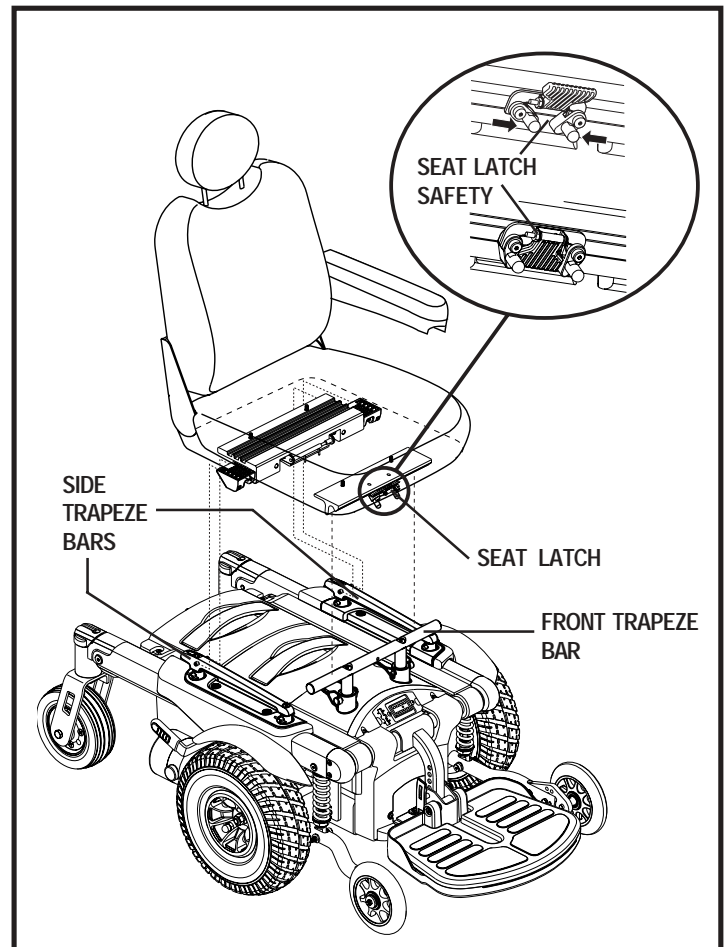

Figure 12. Seat Installation
It may be necessary to install the seat either prior to initial operation or after transporting your power chair. Most seats are attached to the power base with the Universal Mounting System (UMS). The UMS consists of universal parts that may be attached to any medium-back or high-back seat, regardless of seat width or seat depth. The two main components are aluminum extrusions mounted to the seat base. These extrusions attach to a set of trapeze bars that are mounted to the power base (see figure 12).
4. Slide the seat onto the side trapeze bars and slowly lower the seat onto the front trapeze bar until it locks into place. See figure 12.
5. Flip the seat latch safety down. See figure 12.
2. Squeeze the seat latch together. See figure 12.